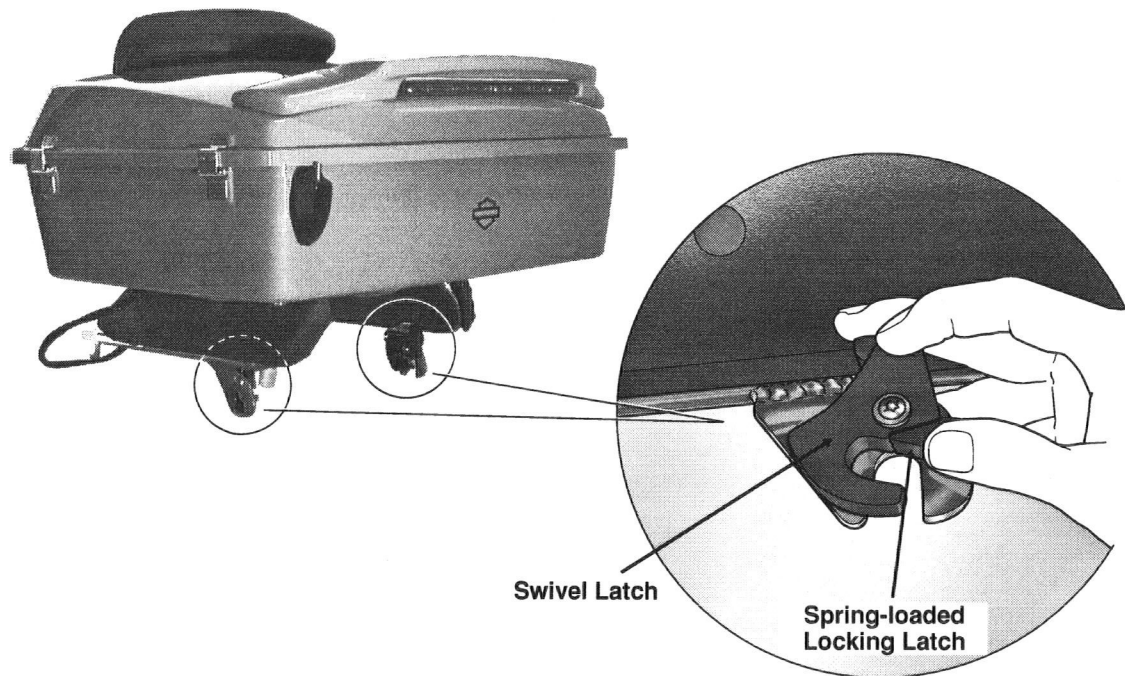

Figure 26. Luggage Rack/Tour-Pak Removal
5. See Figure 26. Remove the Tour-Pak assembly by placing a thumb on **each** of the spring-loaded locking latches, and your index finger on the swivel latch.